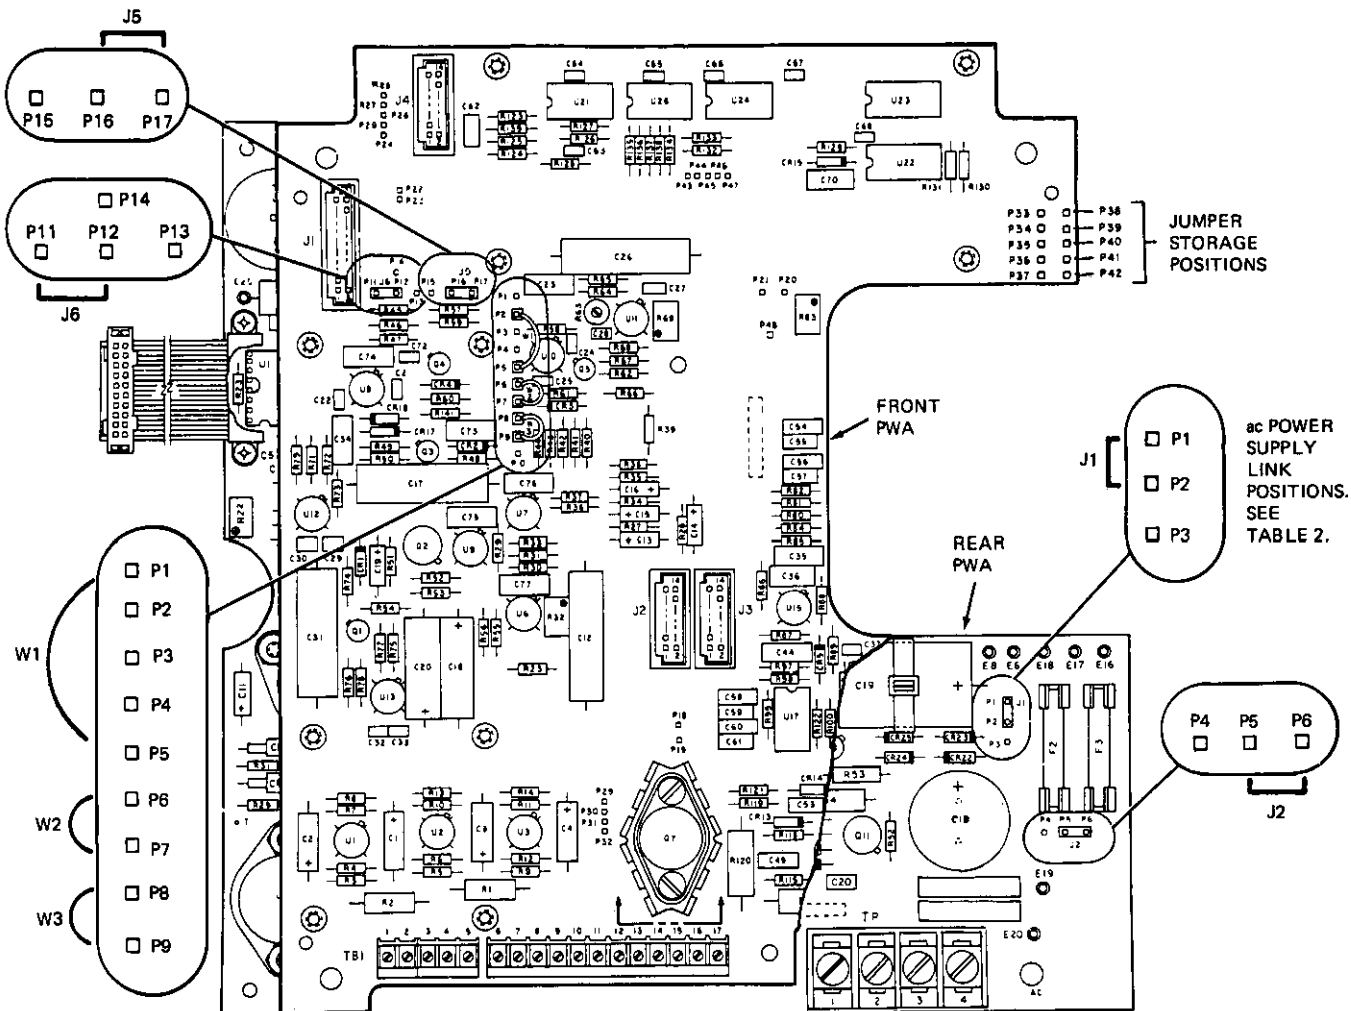

Figure 14. Link and Jumper Positions
10. Position jumper J6 (shown in Figure 14) between pins P12 and P14.
18. Position jumper J6 (shown in Figure 14) between pins P11 and P12.
To locate link or jumper positions used to change a particular operating mode, refer to Figure 14. Position links or jumpers as indicated in the corresponding table below or on Page 11. Mark new operating mode on data plate.